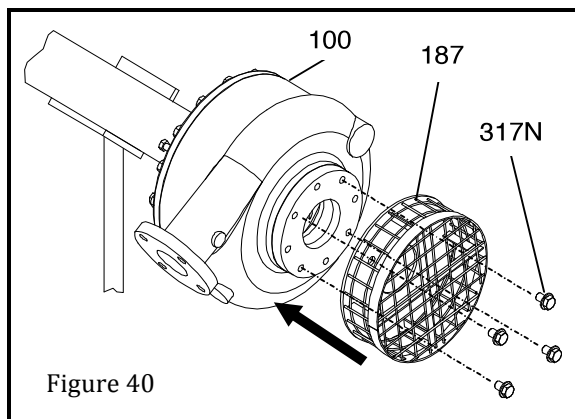

Figure 40
8. Install upper pipe nut (242). Tighten pipe nuts against support plate. Make sure that the pipe nuts are tight and that no strain has been placed on the pump. Rotate shaft by hand to assure there is no binding
9. Install strainer (187) with bolts (Figure 40).